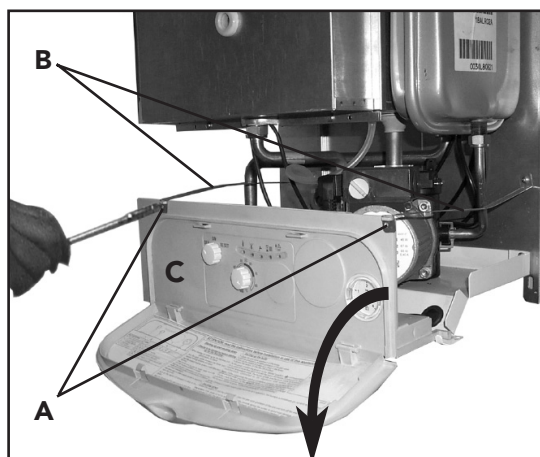

Fig. 21
### To lower the control panel (fig. 21)
- Remove the two fixing screw (fig. 21) "A"